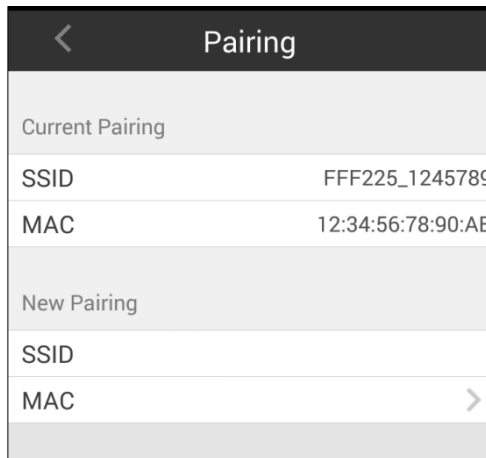

Figure 3-5 Pairing Screen
8. Choose **Pairing** in the menu list to enter the Pairing page (Figure 3-5).